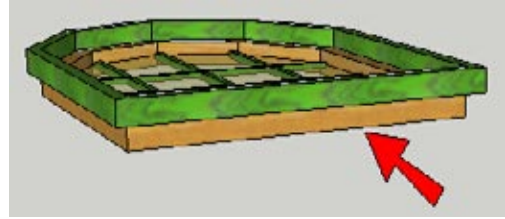

Figure 7-43
2. Orbit to a view like the one shown in Figure 7-43, in which you can see the two parts of the frame. The green part will sit in front of the wall, and the brown part will be set into the wall. The thickness of the brown frame is about 5.5 inches, so the wall thickness should be more than 5.5 inches.